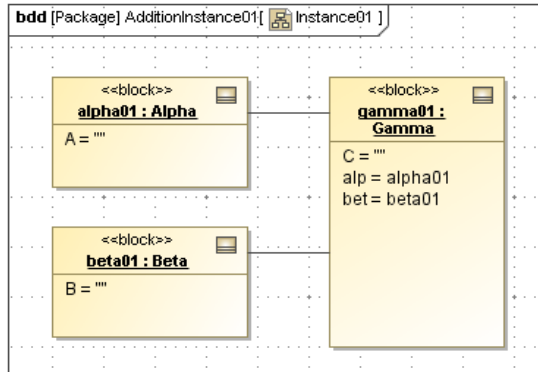

Figure 2.21 Instance diagram, preliminary
- g. Repeat steps e and f for a link from **gamma01** to **beta01**. See diagram in Figure 2.21.